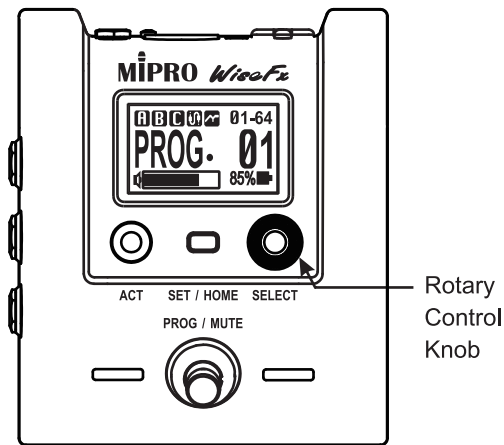

Fig. 11
(A) A navigation control for programming selection, Fig. 11:
- (1) At the primary screen, turn right or left to select pre-stored programs.
- (2) At the primary screen, press SET / HOME **4** to enter function setting screen.
- (3) At the primary screen, turn the knob to choose a selection, press again to activate the current selection. Rotate to choose a new selection, and press the knob to store. Press SET / HOME button again to return to primary screen.